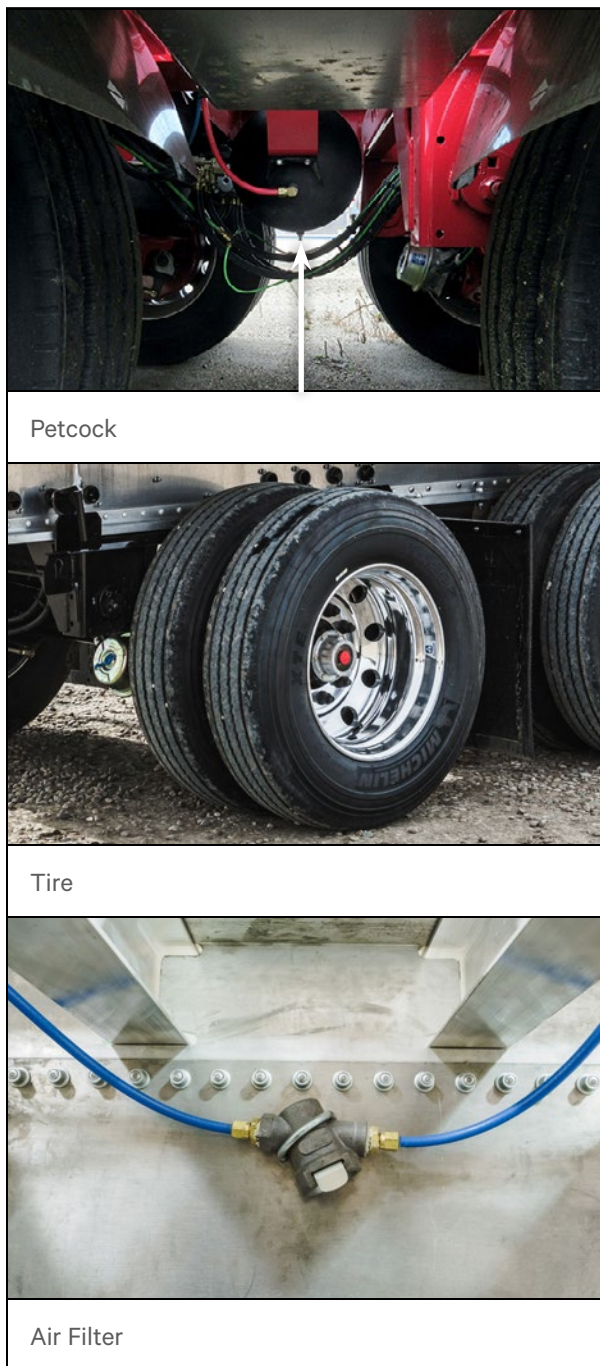

Figure 26 – Servicing (Typical)
3. The air brake line is equipped with an in-line filter to trap debris. This filter is located along the roadside of the upper coupler assembly. Reference Figure 26. Remove the filter cartridge. Blow out any debris with compressed air or wash the cartridge with mild detergent and water. Ensure it is completely dry before reinstalling the cartridge in the filter body.